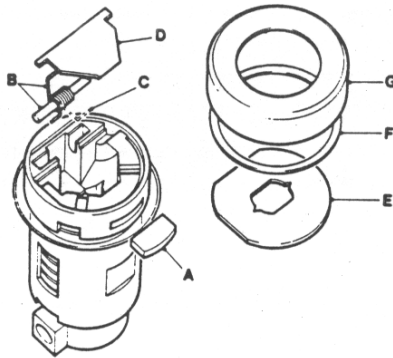

FIG. 8
- .Install shutter housing into the lock barrel and in retaining key, (Fig. 8 A).
- .Install pivot pin and spring into the shutter housing while tensioning the the spring, (Fig. 8 C).
- .Position the shutter flap (Fig. 8 D) into the shutter housing. Install the closing plate, (Fig. 8 E).
- .Insert plastic tension ring (Fig. 8 F) into the lock barrel retaining cover. Install cover (Fig. 8 G) over the lock barrel.